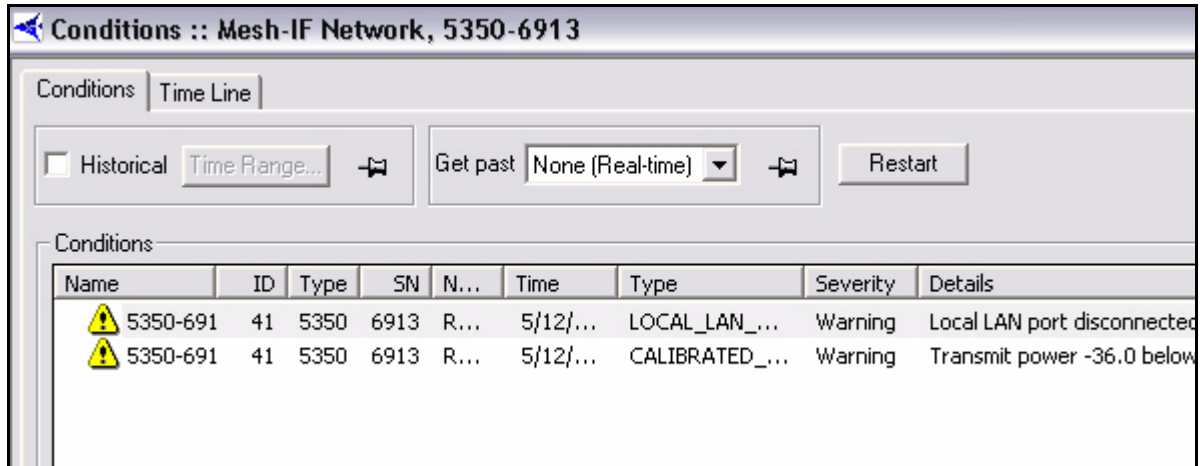

Figure 3-3: Conditions Results in Multicolumn Format
- Step 7 **Conditions.** If you are retrieving data on conditions, the **Conditions/Time Line** pane appears, displaying the conditions logged for the specified period. This data is displayed in a multicolumn format. See Figure 3-3 for an example of data displayed on the **Conditions** tab.
- Step 10 **Events.** If you are retrieving data on events, the **Events** pane appears, displaying the events logged for the specified period. This data is displayed in a multicolumn format only. It cannot be viewed in graphical format. See Figure 3-3 for an example of data displayed on the **Events** tab.